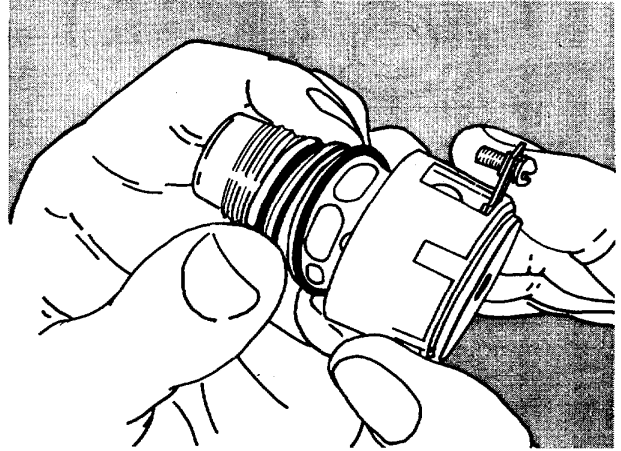

Fig. 20-18. install The O-Ring Seals Onto The Solenoid Valve.
3. Install the new O-ring seals onto the solenoid valve, Fig. 20-18. Make sure that the O-rings are correctly installed onto the solenoid valve.